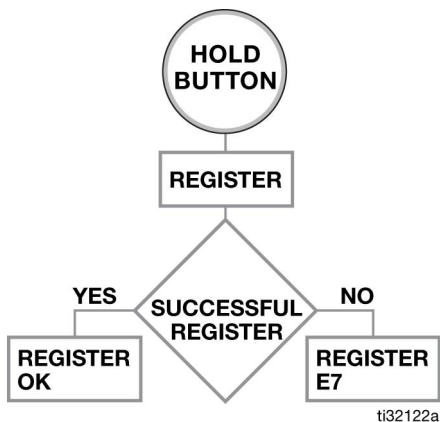

FIG. 3
3. REGISTER OK (FIG. 3, page 6) displays when the TLM is registered with the Pulse software. This may take up to 20 seconds.
If the TLM does not register with the Pulse software, the error message REGISTER E7 displays (see Step , FIG. 3).